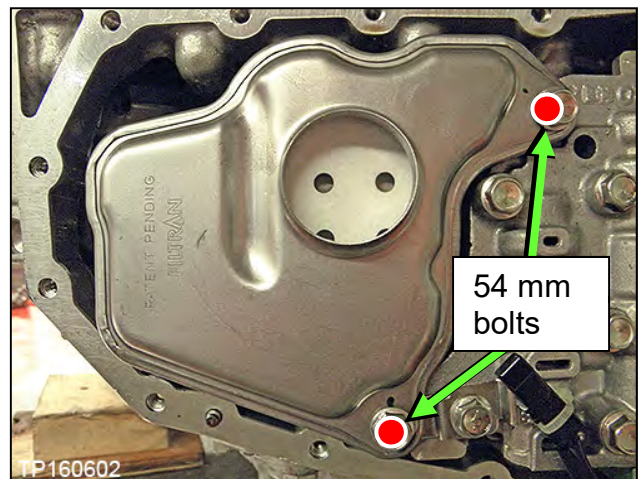

Figure 182
148. Install the new oil strainer with its new O-ring seal with two (2) bolts (Figure 182).